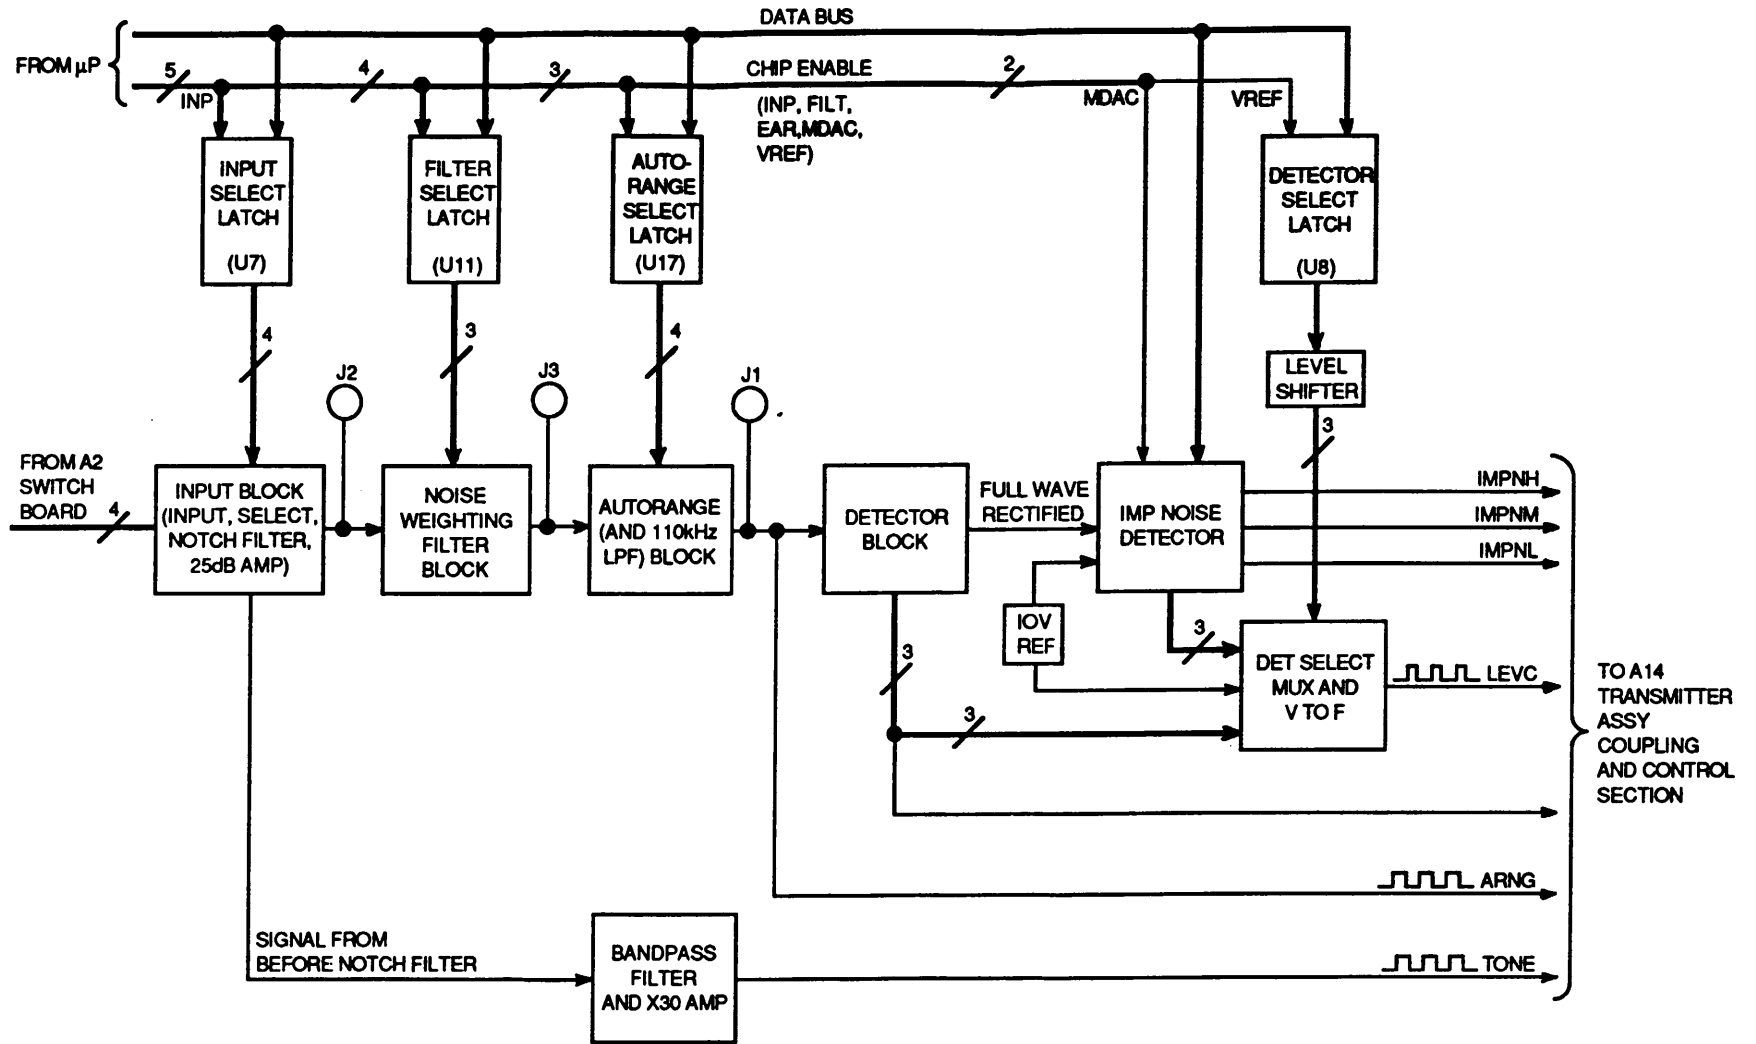

Figure 1-4. Receiver Block Diagram.
② **RECEIVER** (fig. 1-4). This section contains all the circuits to do level measurements, background noise measurements and impulse noise measurements. All measurements are done by amplification, filtering and detection of the received signal. This section is contained on the following circuit card assembly: